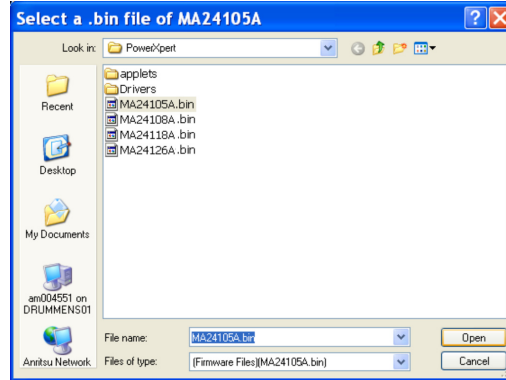

Figure B-14. Firmware File Access Verification
5. First the upgrade wizard verifies the firmware upgrade file is on your computer. A navigation window (Figure B-14 on page B-8) automatically opens to the default location: C:\Program Files\Anritsu\PowerXpert\. If this is not the location to which you downloaded the file, you will need to navigate to its download location.